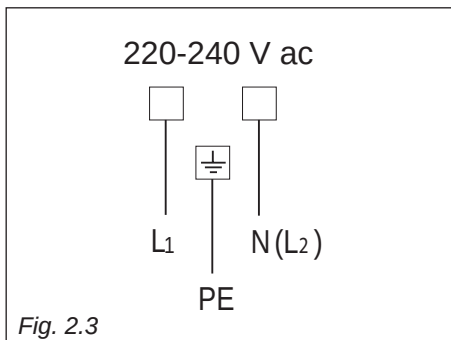

Fig. 2.3
- The new supply cable, of suitable type and section, is connected to the terminal board following the diagram in fig. 2.3.